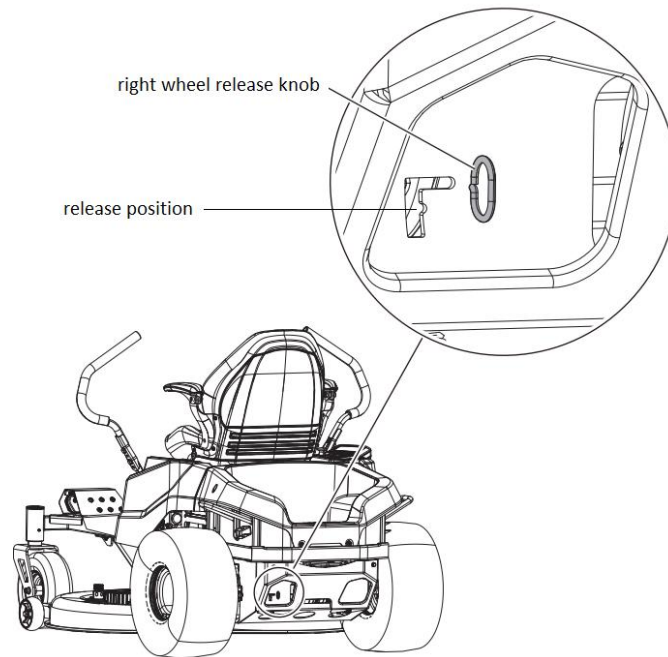

Fig.1
1. Pull the tension spring outward and hook the end into the vehicle frame aligning holes (as shown in Fig.1). Now, the motor brake on this side can be released and the rear wheel can rotate freely.